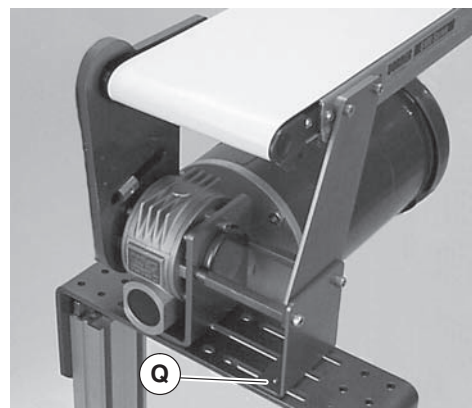

Figure 20
15. Mount assembly to support structure with four hard washers and screws (Figure 20, item Q). Tighten to 80 in-lb (9 Nm).